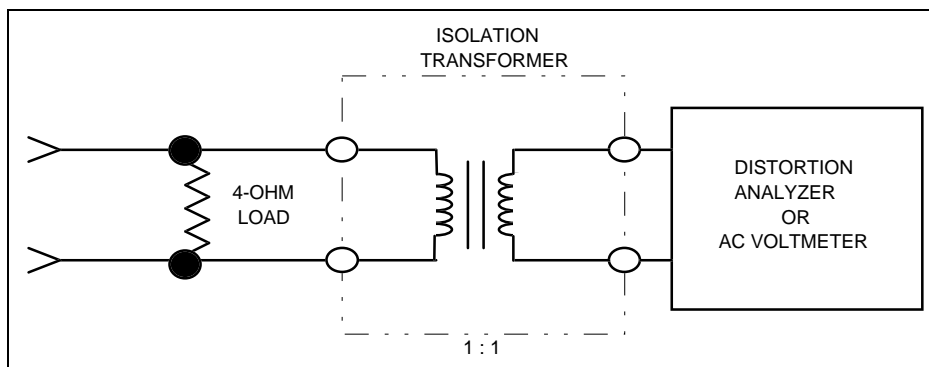

Figure 4 - Audio Isolation Transformer
2. Connect a 4-ohm, 25-watt resistor in place of the speaker. Connect the isolation transformer input across the resistor. Connect the isolation transformer output to the Distortion Analyzer (see Figure 4).